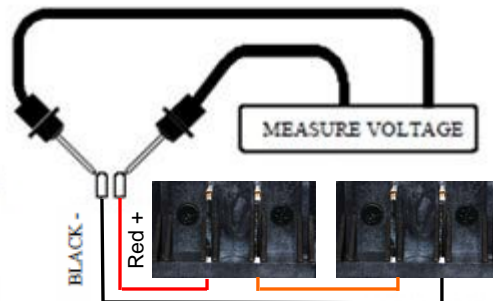

Figure 13.
5. Disconnect the power harnesses (5) from the controller.
7. Measure voltage across the red B+ and black B- wires. **See figure 13.**